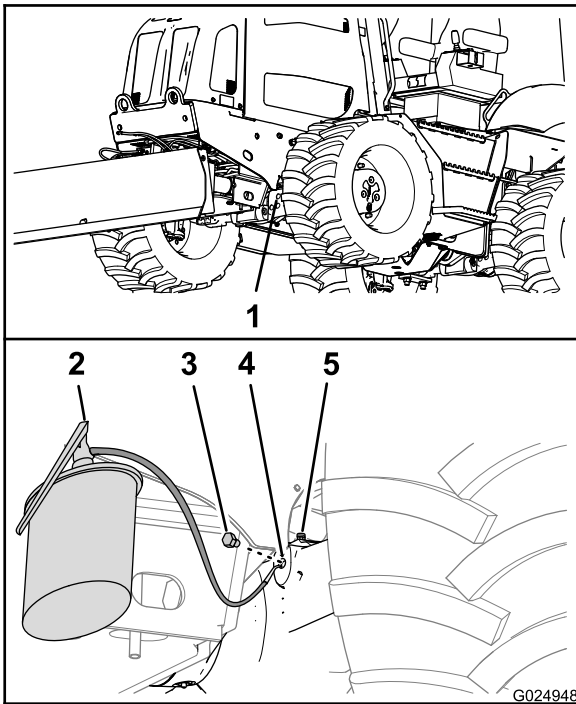
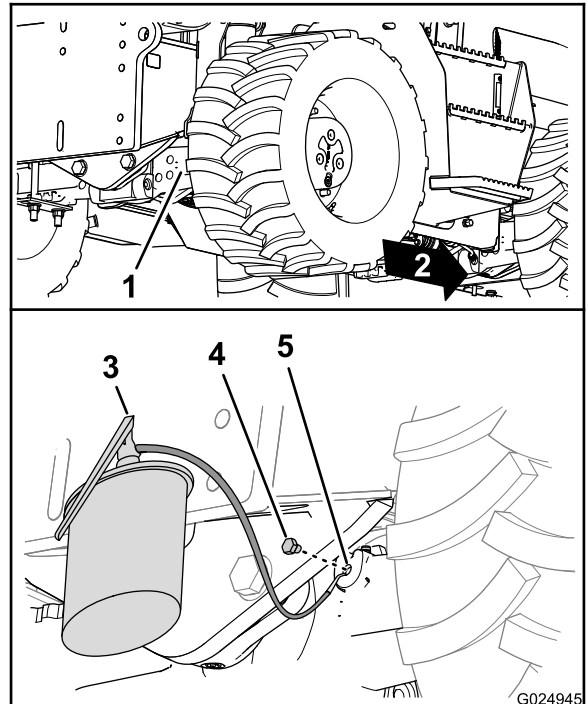

Figure 90
Figure 91
6. Fill the axles with the specified oil through the sight port until the oil is level with the threads at the bottom of the port (Figure 90 and Figure 91).
8. Install the fill plugs into the sight ports of the pinion housings for the axles (Figure 90 and Figure 91).